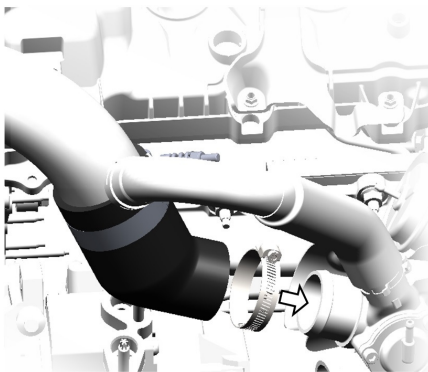

Figure 3
1. Install a **1.875” X 2.5” X 45° Hose Coupler** onto the driver-side turbo outlet using a **#36 Hose Clamp**. Do not tighten the clamp yet. **Refer to Figure 3.**